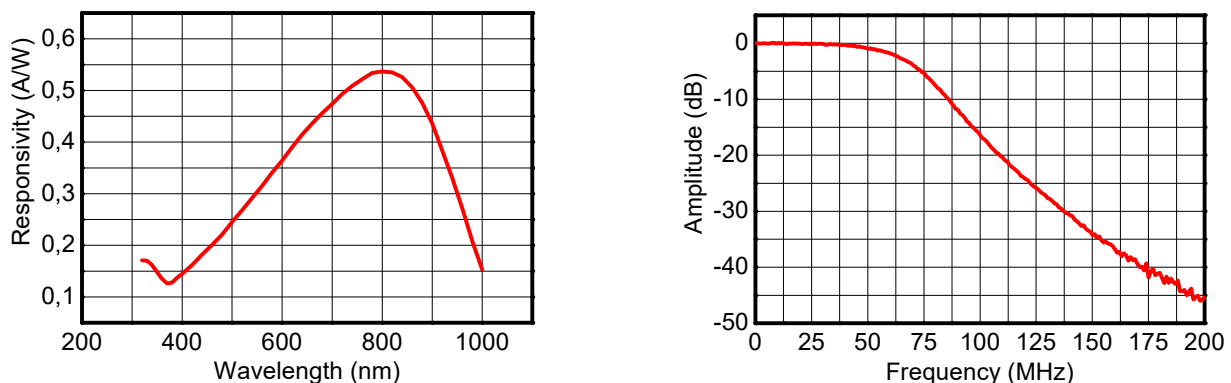

Figure 2: PDA8A Spectral Responsivity and Frequency Response
- marked correspondingly with the crossed out “wheelie bin” logo (see fig. 2)